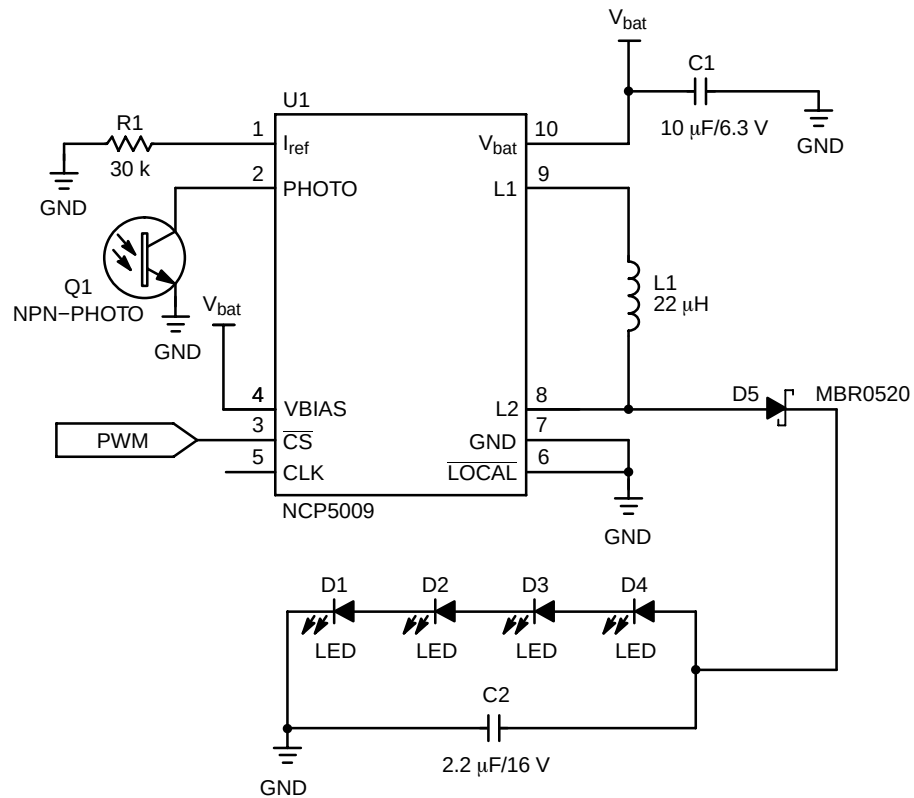

Figure 24. PWM Current Control Mode Operation in LOCAL Mode
- The LEDs brightness can be controlled in LOCAL mode with a PWM on $\overline{CS}$ pin as depicted in Figure 24.